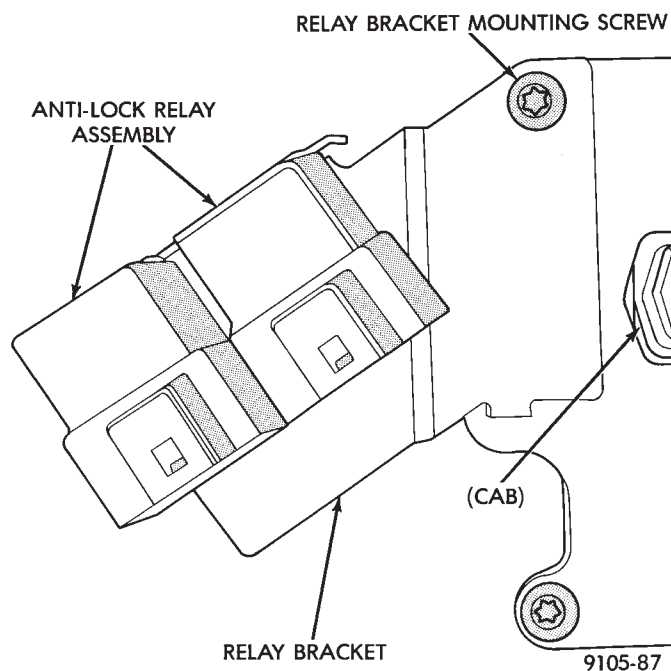

Fig. 9 Relay And Bracket Removal
(1) Hold the relays with one hand, while pulling straight down on the wiring harness connector. Until the connectors are free from the relays (**do not twist the connectors**).
(2) Remove the screw (Fig. 9) holding the relay bracket to the (CAB) bracket. Remove the relays and bracket assembly.
(1) Mount the relay and bracket assembly to the (CAB) bracket, with the mounting screw (Fig. 9).
(2) Holding the relays with one hand, push the wiring harness connector straight onto the terminals of the relay. Make sure the connector is fully seated onto the terminals of the relay.